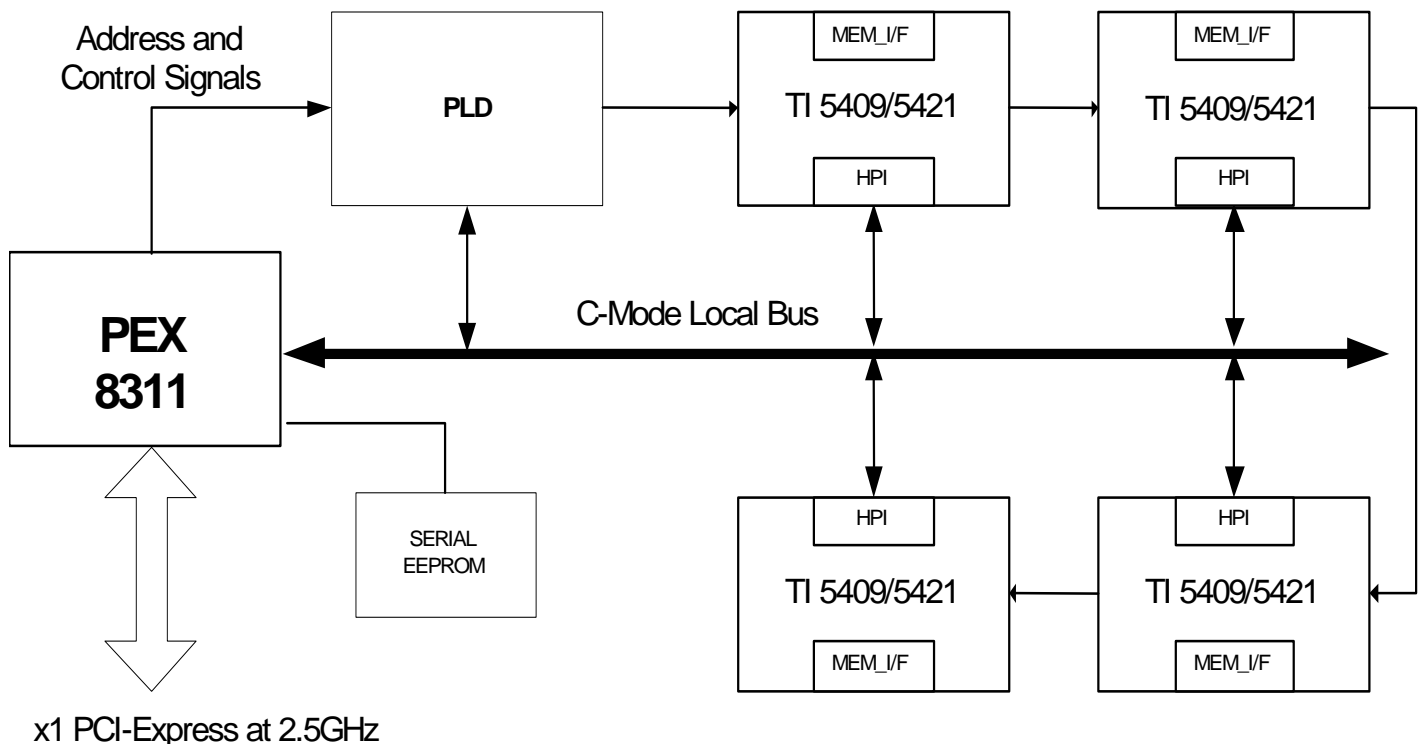

Figure 1. PLX PEX 8311 and TI TMS320VC5409/21 PCI Subsystem
This application note describes the connection between the PLX PEX 8311 bridge chip and the Texas Instruments (TI) TMS320VC5409/5421 DSP. This application note can be used as a basis to build a PCI-Express adapter that plugs into a PCI-Express backplane. Figure 1 shows a system level block diagram, which includes connections between the PEX 8311, TI 5409/5421 DSPs and PLD and serial EEPROM.